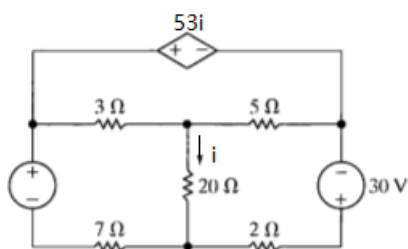

Fig 7
7. [5%] Use the mesh-current method to find the power developed in the dependent voltage source in the circuit in Fig 7.